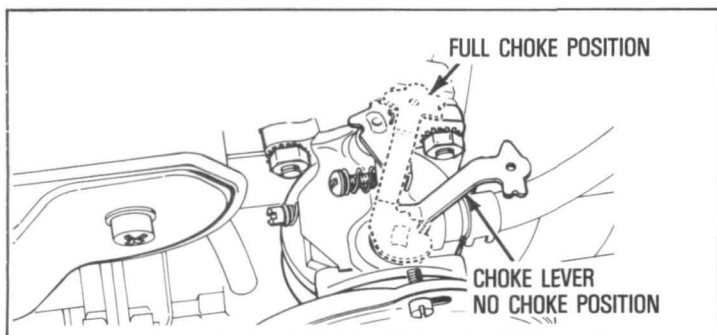

Figure 3
- ① **COLD ENGINE START** (Engine has not been run recently.)
A. Move CHOKE LEVER on engine (see Figure 3) or remote control on equipment to FULL CHOKE POSITION.
B. Crank engine until engine fires and when engine starts, move CHOKE LEVER (see Figure 3) on engine or remote control on equipment to 1/2 choke and then to NO CHOKE POSITION.
- Move CHOKE LEVER (see Figure 3) on engine or remote control on equipment to NO CHOKE POSITION.